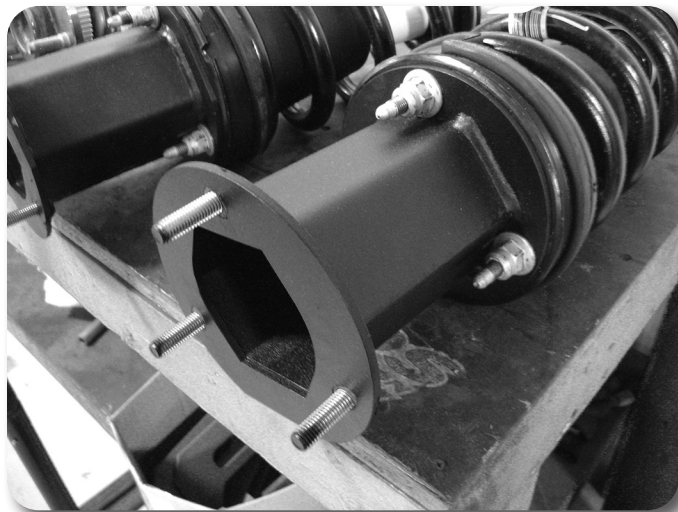

Figure 40
58. Install the provided strut spacers on the strut with the provided 10mm prevailing torque nuts and washers. The spacers will only install one way Fig. 40. Torque hardware to 30 ft-lbs.